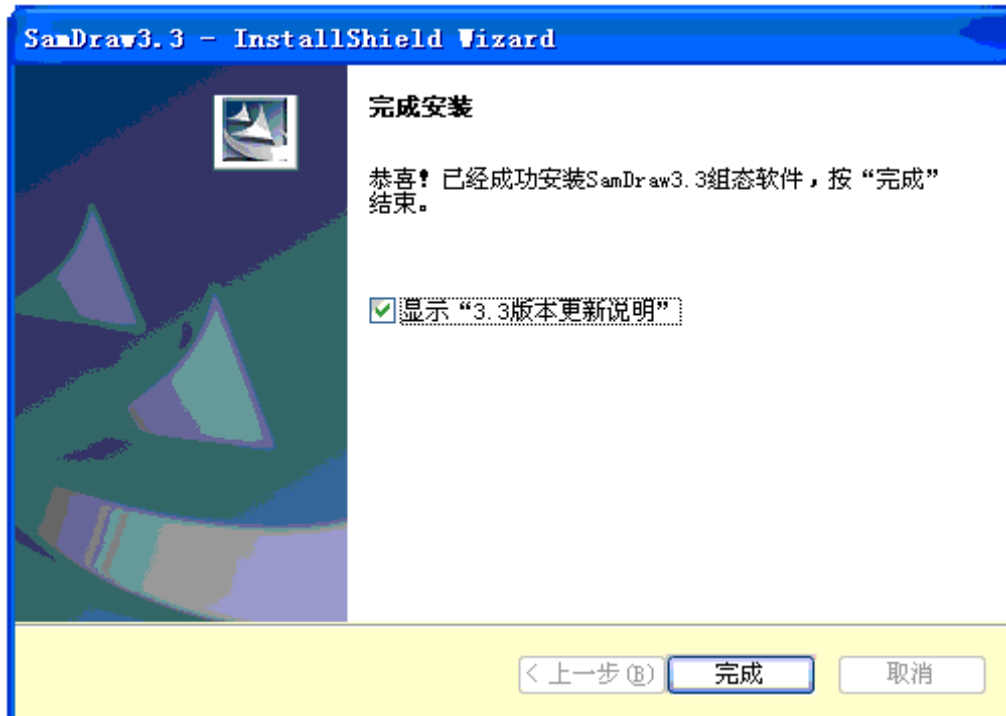

Figure 2-8: Installation completion page
- After the installation is completed, click “OK” to close the installation guide. You can also click “Display update introduction” to view the introduction of the update of SamDraw3.3. See Figure 2-8.